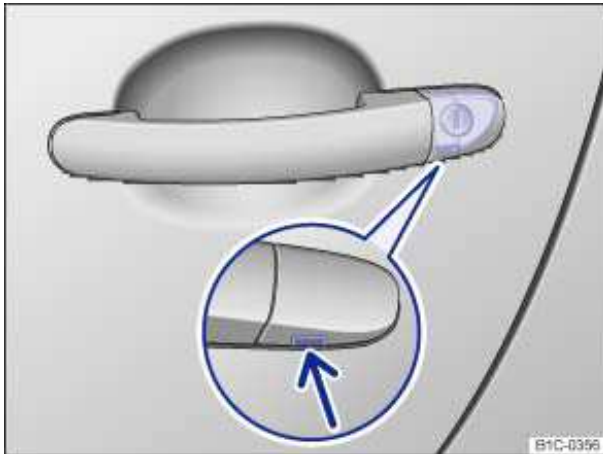

Fig. 194 Door handle on driver door: Concealed lock cylinder.
- Insert the key bit from below into the opening of the cover cap on the driver door ⇒ fig. 194 (arrow) and lift the cover cap off. Grasping the door handle and pulling slightly makes it easier to remove the cap.